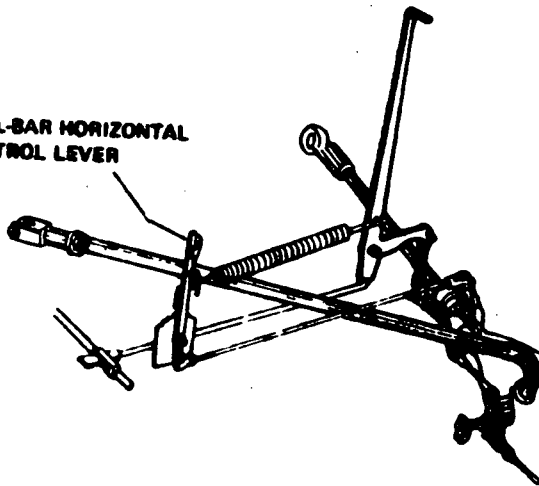

Fig. 2
- b) Tilt of the cutter bar (Fig. 2).